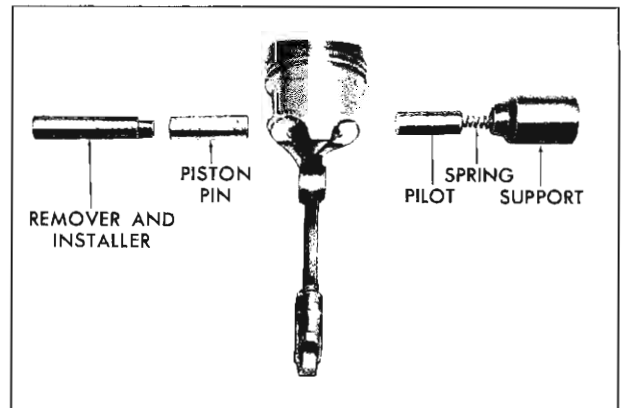

Fig. 170—Piston Pin Assembly Tool
3. Install piston pin on installer and pilot spring and pilot in support (fig. 170).